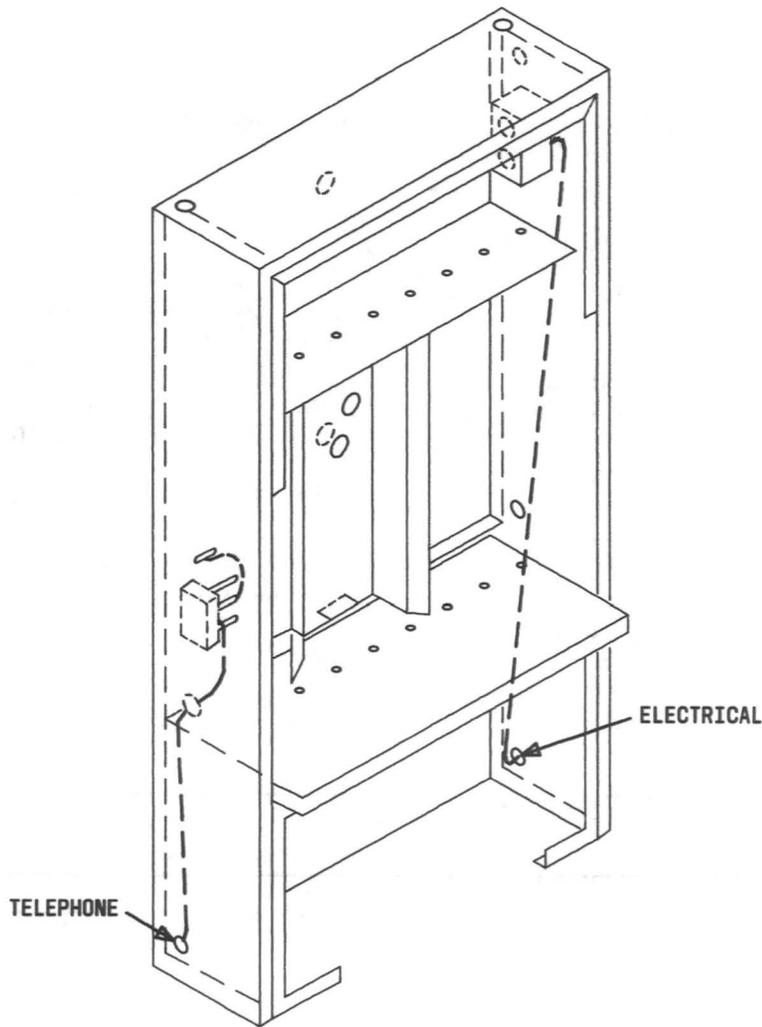

Fig. 13—Wall Mount—Side Entrance Wiring
3.37 Refer to Fig. 13 through 19 for various wire runs.